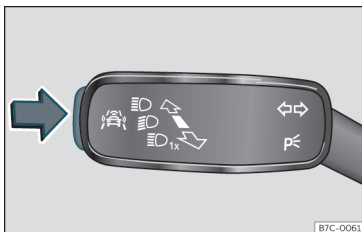

Fig. 106 On the turn light and main beam lever: key for driver assistance systems.
- Briefly press the button >>> **Fig. 106** in the direction of the arrow to open the menu **Assistance systems**.